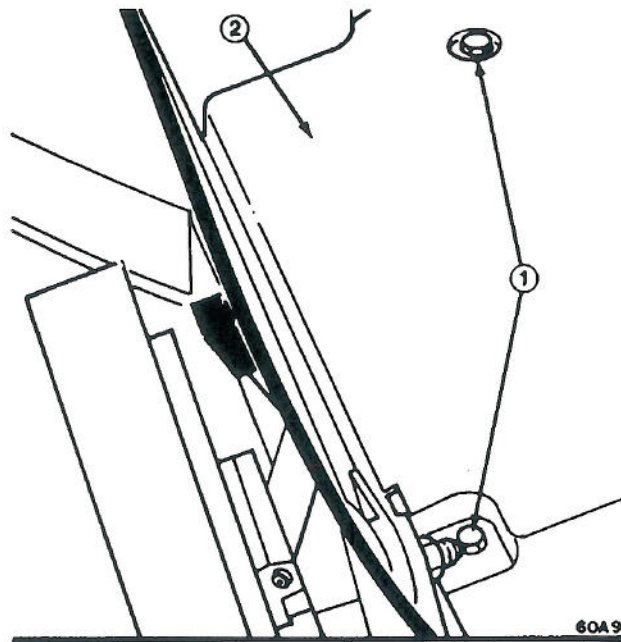

Figure 18
2. Remove two capscrews securing transmission cover and remove cover (Fig. 18). Thoroughly clean the top of the transmission.
3. Loosen capscrew securing ground speed control cable, remove roll pin securing transmission control lever, pull lever out of the transmission and remove control cable from lever (Fig. 18).
2. Remove two capscrews securing transmission cover and remove cover (Fig. 18).